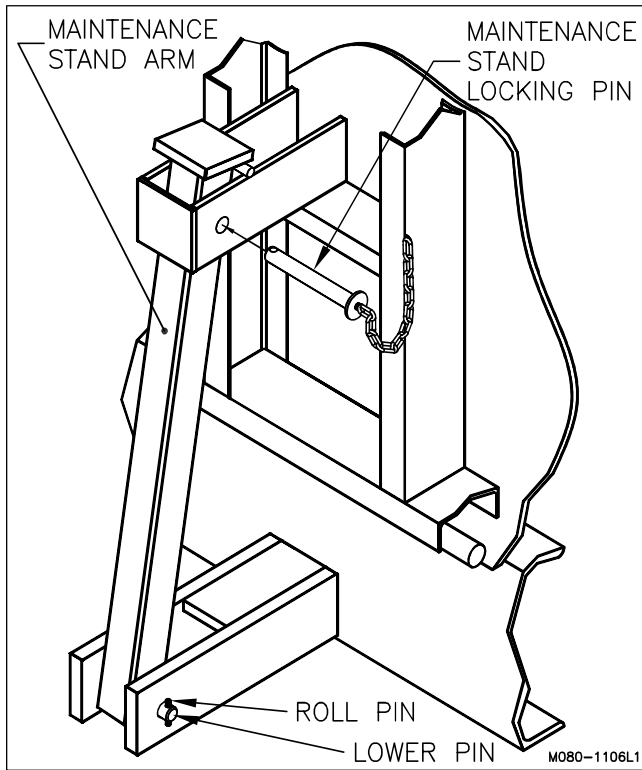
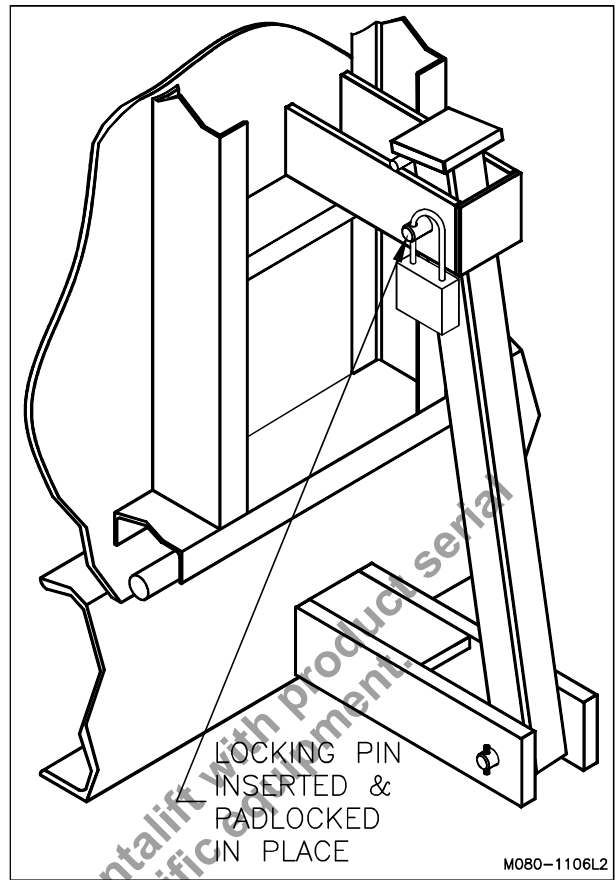

Figure 4: Maintenance Stand - Showing Location to Insert Locking Pin
Figure 5: Maintenance Stand - Showing Locking Pin Inserted and Padlocked in Place
3. Insert the Maintenance Stand Locking Pin, ensuring that the Locking Pin passes through the hole in the Maintenance Stand Arm (See "Figure 4: Maintenance Stand - Showing Location to Insert Locking Pin" on page 6) and lock in place using a Padlock (padlock by others) (See "Figure 5: Maintenance Stand - Showing Locking Pin Inserted and Padlocked in Place" on page 6).
18. ___ Ensure the Maintenance Stand is installed as in “Figure 3: How to Support the Dock Leveler for Maintenance” on page 5. Ensure the Maintenance Stand Lower Pin is fully inserted and Roll Pins installed (“Figure 5: Maintenance Stand - Showing Locking Pin Inserted and Padlocked in Place” on page 6).